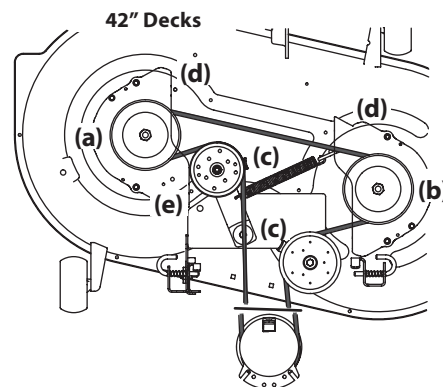
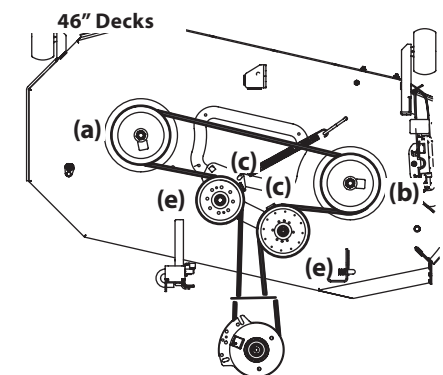

Figure 4-17
Figure 4-18
2. Loosen, but do not remove the hardware on the right (a) and left idler pulley (b). Refer to Figure 4-17 for 42" decks, Figure 4-18 for 46"